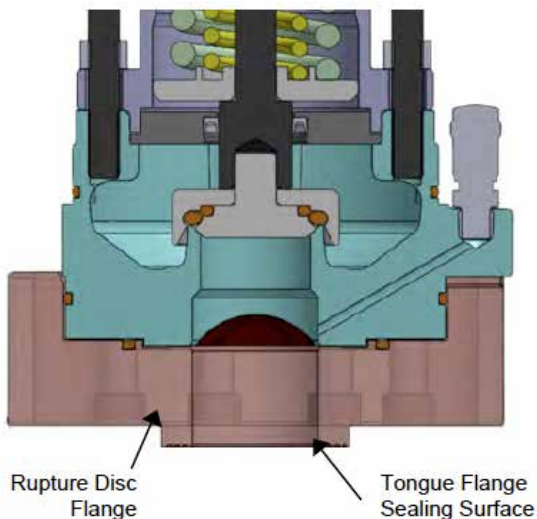

Figure 4-5 Machinable Surfaces (Tongue Flange)
4.1.6.1 The underside of the rupture disc flange is the surface that seals to the mounting plate on the railcar (Figure 4-5). Machining of this surface is permitted. A good seating surface is necessary to ensure there are no leaks in this area.